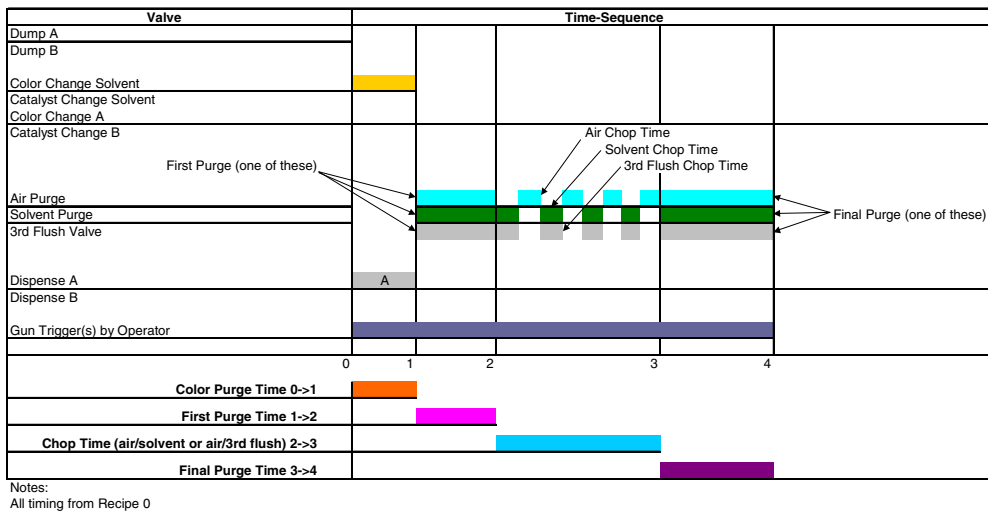
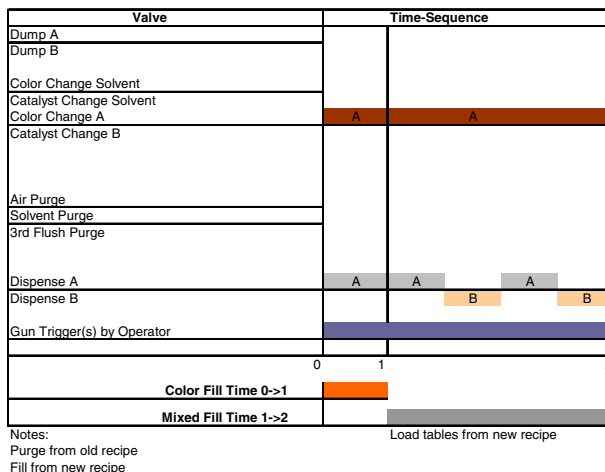

FIG. 120: Color Change Chart 12
FIG. 121: Color Change Chart 13
| X | 0 | Yes | No | No | No | 0, 1, or 2 | FIG. 120** |
| X | 0 | No | No | No | No | 0, 1, or 2 | FIG. 120** |
| 0 or 61 | X | Yes | No | No | No | 0, 1, or 2 | FIG. 121** |
| 0 or 61 | X | No | No | No | No | 0, 1, or 2 | FIG. 121** |
| 0 | 0 | Yes | No | No | No | 0, 1, or 2 | FIG. 120** |
| 0 | 0 | No | No | No | No | 0, 1, or 2 | FIG. 120** |
** FIG. 120 and FIG. 121 show color change. If the color is not changing, disregard that portion of the chart.